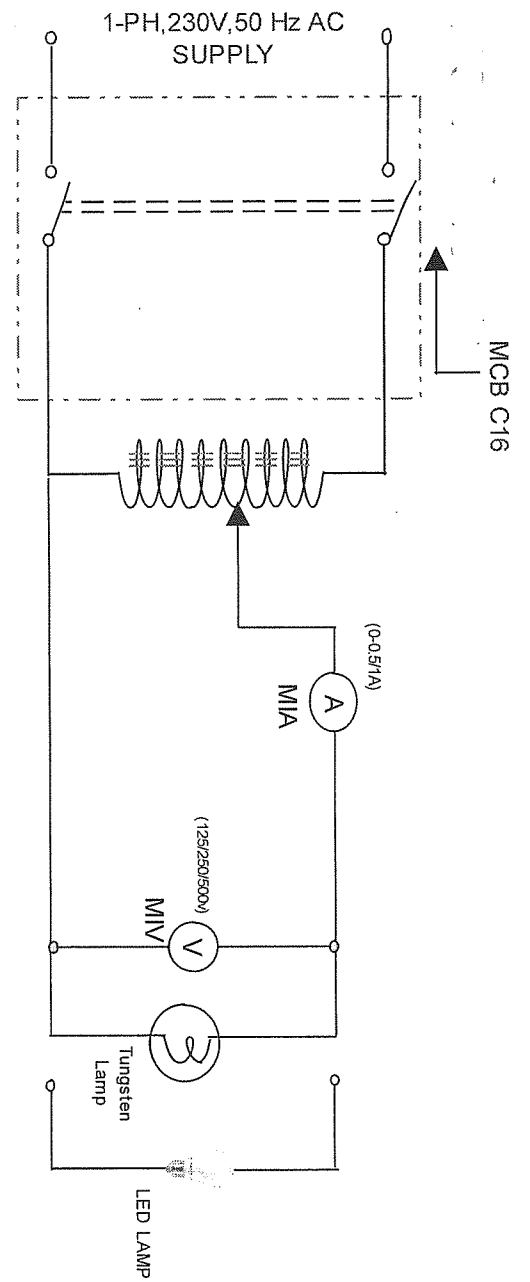

Fig: 6.1 Circuit Diagram for Determination of Lamp Characteristic(Tungsten/LED)
1. Connect the circuit as shown in Fig.6.1. First use the Tungsten filament lamp.